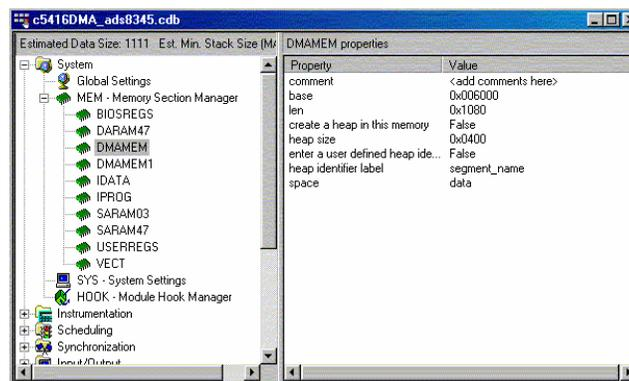

Figure 4. DMAMEM and DMAMEM1 Objects
2. Right click on MEM-Memory Section Manager and select Insert MEM. Repeat this step once more. Rename the first object to DMAMEM and second to DMAMEM1 as shown in Figure 4.